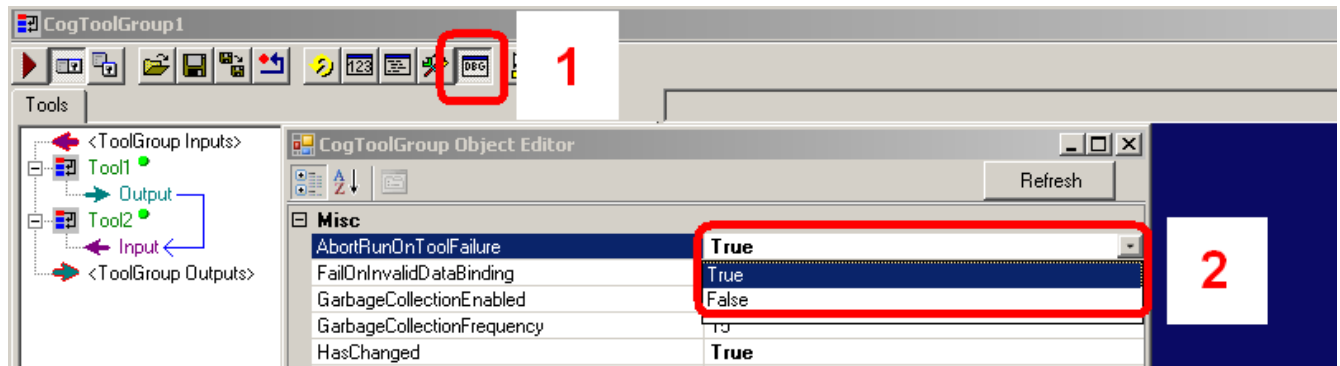

Figure 3: Object Browser showing AbortRunOnToolFailure Property.
The default value of AbortRunOnToolFailure is true. You can change the value of this property as shown in Figure 3.
- Set **AbortRunOnToolFailure** property of the ToolGroup to **false**. See Figure 3 on how to configure this.